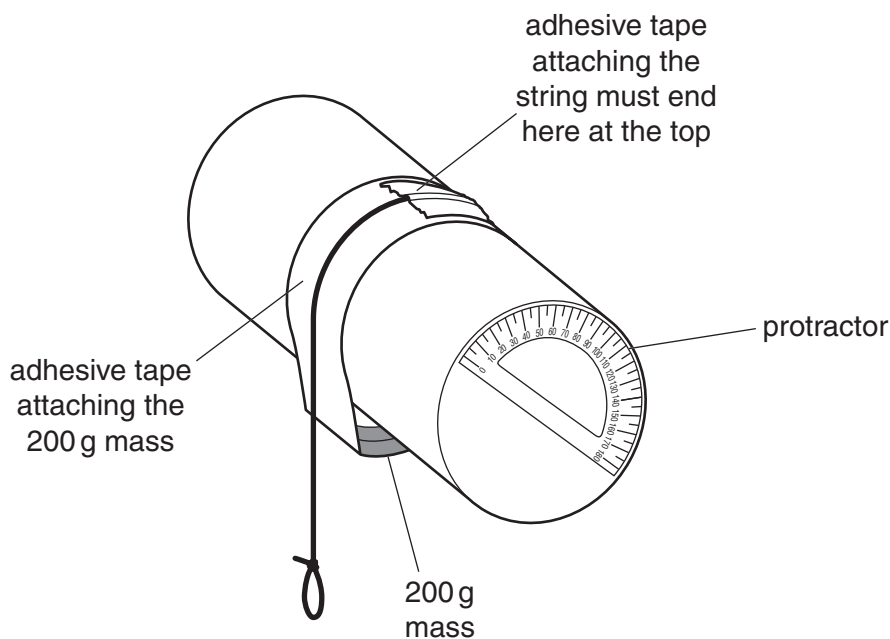

Fig. 1.1
- 3 Attach the two 100 g slotted masses to the beaker using adhesive tape, as shown in Fig. 1.1.
- 4 Tie a loop in one end of the string and then attach the string to the beaker using adhesive tape, as shown in Fig. 1.1.
- 5 Stick the paper protractor to the base of the beaker using paper adhesive (e.g. Pritt Stick), as shown in Fig. 1.1. The 0° mark on the protractor should be beyond the end of the adhesive tape, as shown in Fig. 1.1, but the exact position is unimportant.